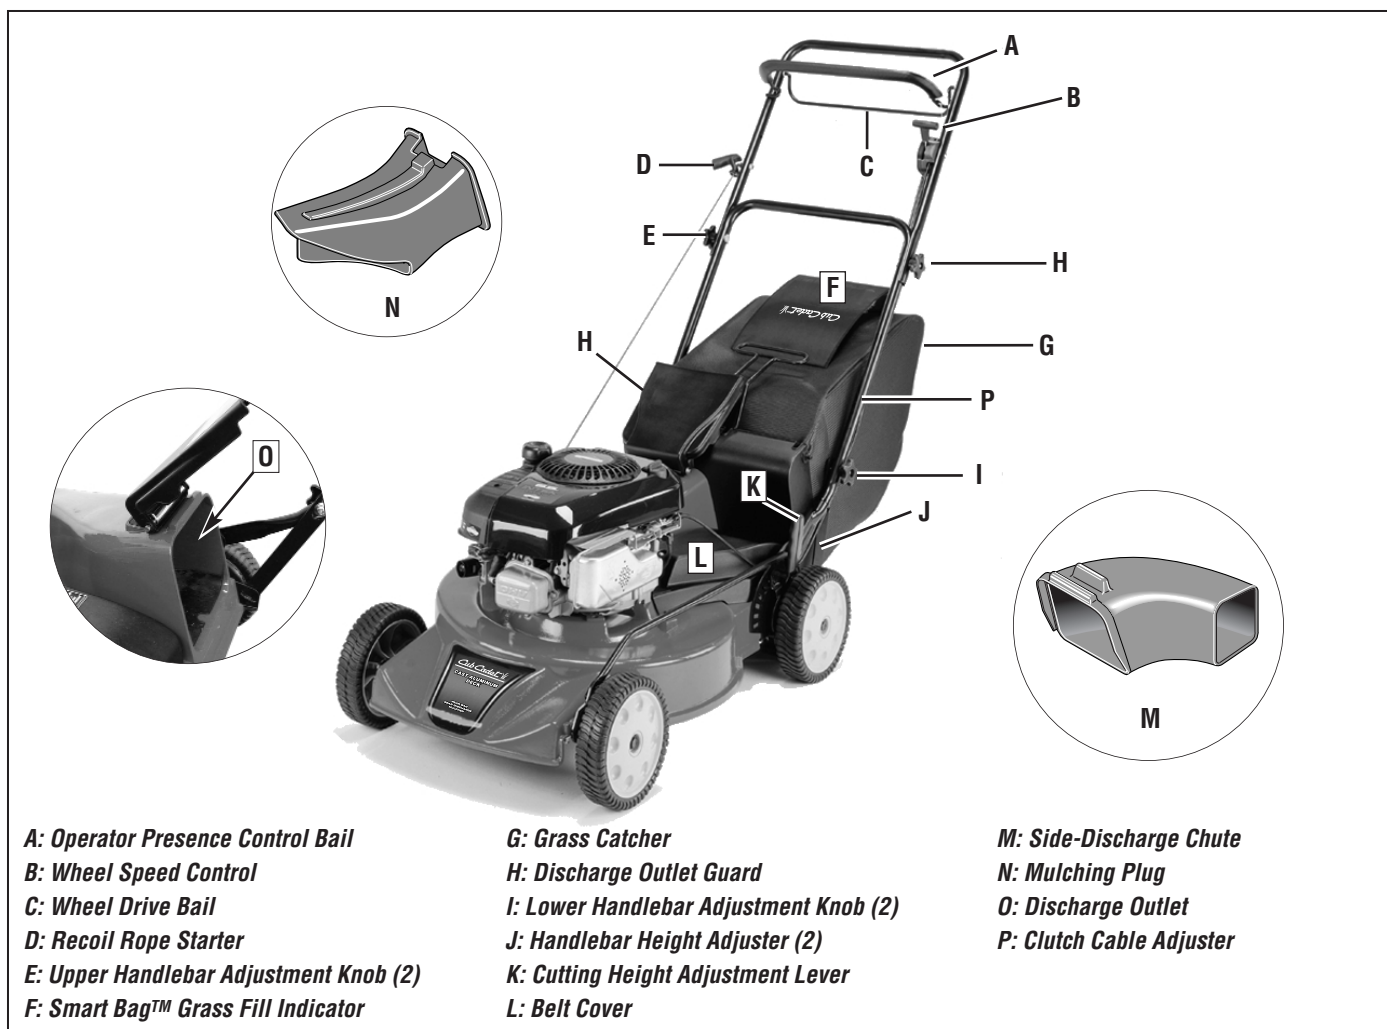

Figure 3-1
The mower is supplied with three easily changed attachments—the Grass Catcher (I, Figure 3-1), Mulching Plug (N) and Side-Discharge Chute (M)—which provide three different mowing modes. See *Setting Up Mowing Modes* in Section 4 for detailed information on how to install and use the attachments.
Use the Grass Catcher (G, Figure 3-1) to collect clippings for disposal. The bag can hold over two bushels of clippings.
The Grass Catcher is equipped with the Cub Cadet® Smart Bag™ feature (F, Figure 3-1). The Smart Bag feature is a grass fill indicator that provides a visual alert when the bag is full. See *Bagging Mode* in Section 4 for detailed information.
Use the Side-Discharge Chute (M, Figure 3-1) to direct grass clippings out the left side (from operator's position) of the mower. See *Side-Discharge Mode* in Section 4.
Use the Mulching Plug (N, Figure 3-1) to mulch lawn clippings. See *Mulching Mode* in Section 4.
The Operator Presence Control Bail (A, Figure 3-1) must be pulled back against the handlebar and held there while starting the engine and operating the unit. Releasing the bail will shut off the engine and stop the mower blade. The engine will not restart unless the bail is pulled back against the handlebar.
The Wheel Drive Bail (C, Figure 3-1) engages the powered rear wheels when it is pulled up against the handlebar, and disengages the wheels when released. See *Mowing and Turning the Mower* in Section 4 for more information.
The Wheel Speed Control (B, Figure 3-1) provides three different wheel speeds. Selections are:
This control (K, Figure 3-1) provides eight cutting heights, enabling you to choose the most appropriate height for the lawn condition. Cutting heights range from 3/4-inches to 4-1/4-inches. See *Preparation for Mowing* in Section 4 for more information.
The recoil rope start (D, Figure 3-1) is used to pull-start the engine. See the Engine Owner's Manual for starting information specific to your engine. Also see *Starting the Engine* in Section 4.
The mower provides three handlebar height settings (J, Figure 3-1). See *Step 5: Adjust Handlebar Height* in Section 2.